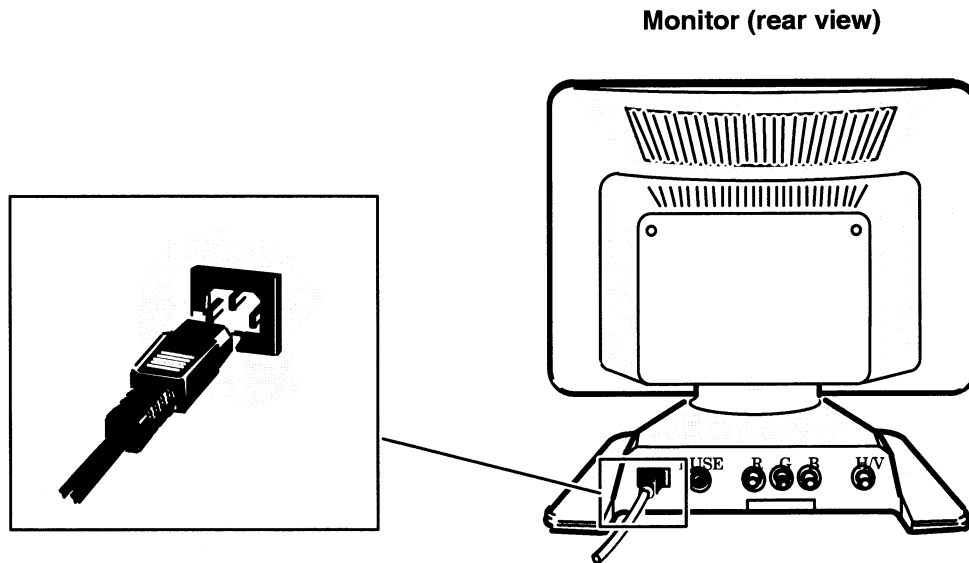

Figure 2-4 Connecting the Color Monitor Power Cord
4. Plug the female end of the monitor power cord into the ac connector at the back of the monitor. Plug the male end of the monitor power cord into an ac outlet. Figure 2-4 illustrates how to connect the monitor cord.